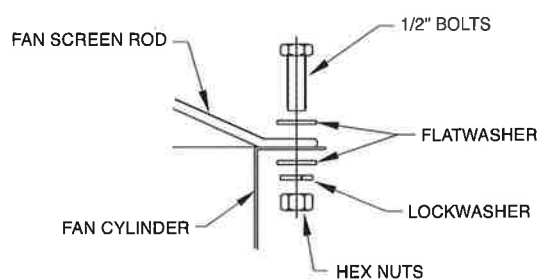

Figure 22 – Attachment of Fan Screen to Discharge Cylinder
4. At each hole, attach the fan screen to the discharge cylinder as shown in Figure 22. At the points where the support frame meets the cylinder, bolt the support frame to the cylinder together with the fan screen.